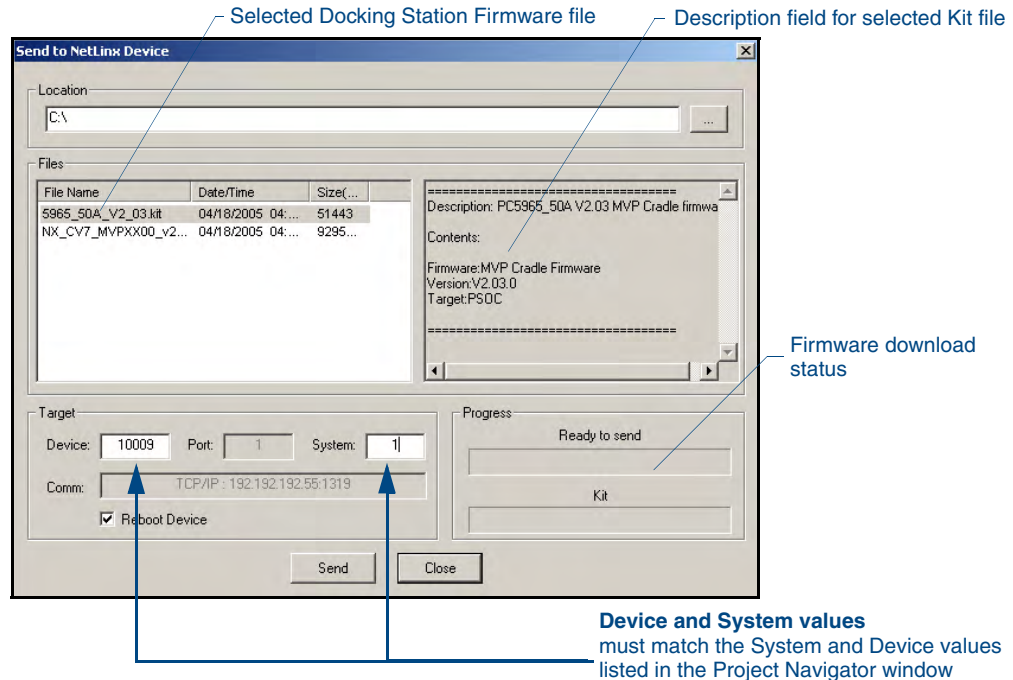

FIG. 3 Send to NetLink Device dialog (showing docking station firmware update via USB)
7. Select **Tools** > **Firmware Transfers** > **Send to NetLinX Device** from the Main menu to open the Send to NetLinX Device dialog (FIG. 3). Verify the panel's System and Device number values match those values listed within the System folder in the **OnLine Tree** tab of the Workspace window.
8. Select the docking station's Kit file (*ending in VXX.kit*) from the **Files** section (FIG. 3).